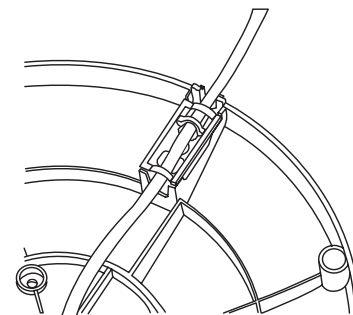

Fig. 8
- Gently pull any slack out of the power cord, place the power cord securely in the holding bracket and secure the power cord bracket over the power cord (Fig. 8).